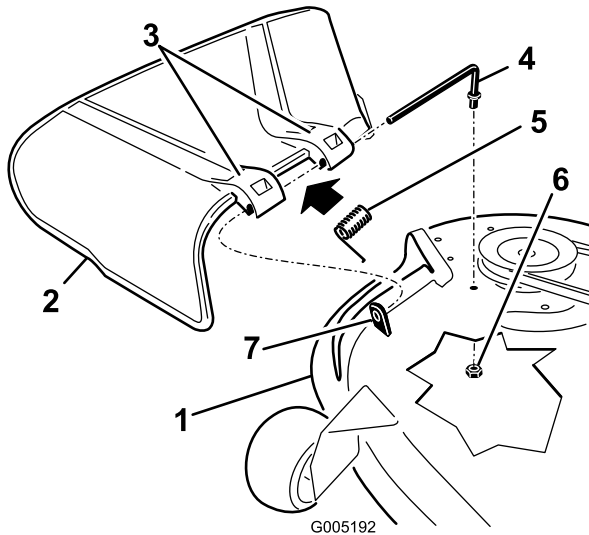

Figure 60
1. Remove the nut (3/8 inch) from the rod under the mower (Figure 60).
9. Secure the rear end of the rod into the mower with a nut (3/8 inch) as shown in Figure 60.
2. Slide the rod out of the short standoff, spring, and grass deflector (Figure 60).
4. Replace the grass deflector (Figure 60).
7. Slide rod through the second grass-deflector bracket (Figure 60).